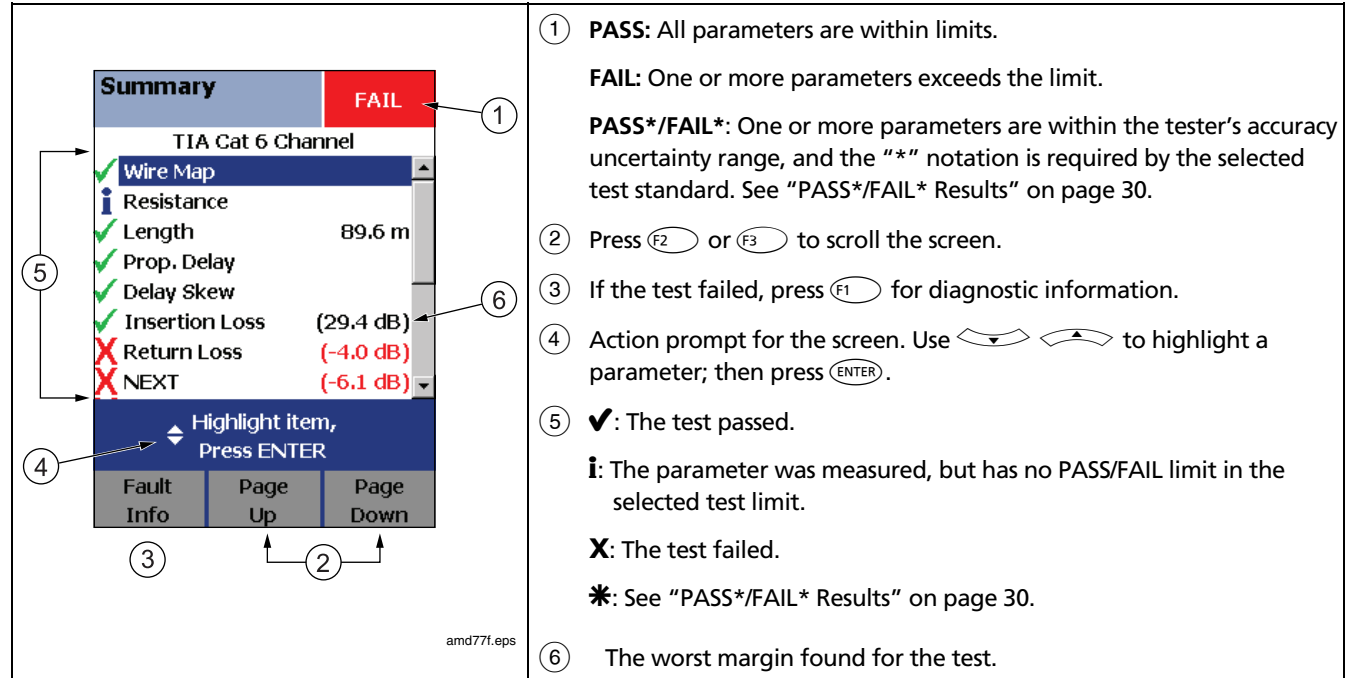

Figure 13. Autotest Summary for Twisted Pair Cabling
- 6 The tester shows the Autotest **Summary** screen when the test is complete (see Figure 13 on page 29). To view results for a specific parameter, use   to highlight the parameter; then press .
Figure 13 describes the Autotest **Summary** screen.